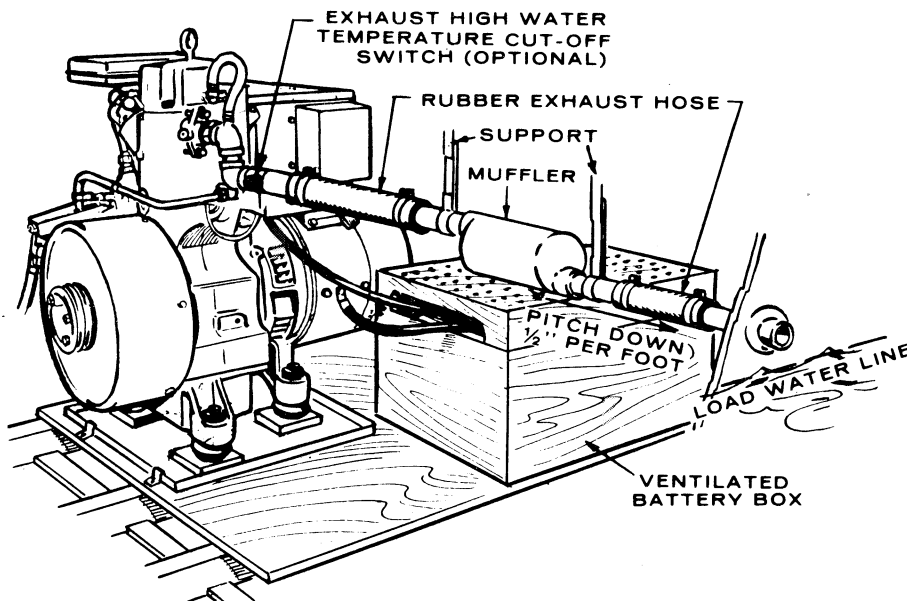

FIGURE 2. TYPICAL INSTALLATION
See installation, Figure 2 and 4. The engine exhaust connection is 1-1/4 inch pipe tapped. Pipe exhaust gases outside of the hull.
4. Use flexible hose or tubing (see Figures 2 and 3).